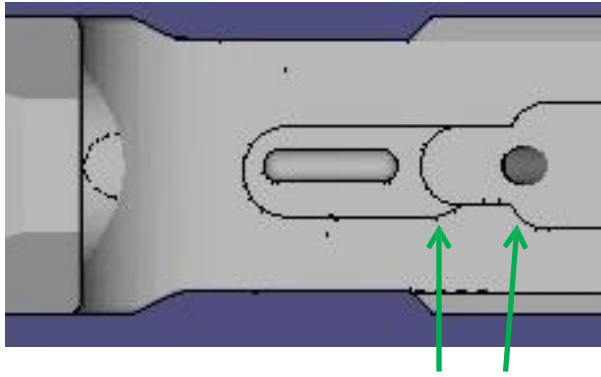

Figure 1, NOTE THE SLIGHT INDENTATION, DON'T DRILL THIS OFF
9. **Hole #1 Drilling Procedure and Warnings - Figure 1:** Before we get started on Hole Number 1 area, **there's one important feature that you must pay attention to**. There's a slight but **IMPORTANT** indentation that you can't drill through because the safety selector DETENT hole is drilled through this area underneath the lower (near the pistol grip).